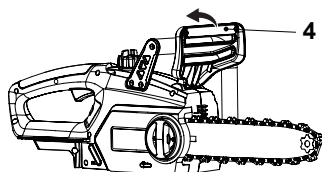

Fig. 16, disengage chain brake
Disengage chain brake: When the chain brake lever (4) is in the disengaged position, the product can be operated with running saw chain (Fig. 16).